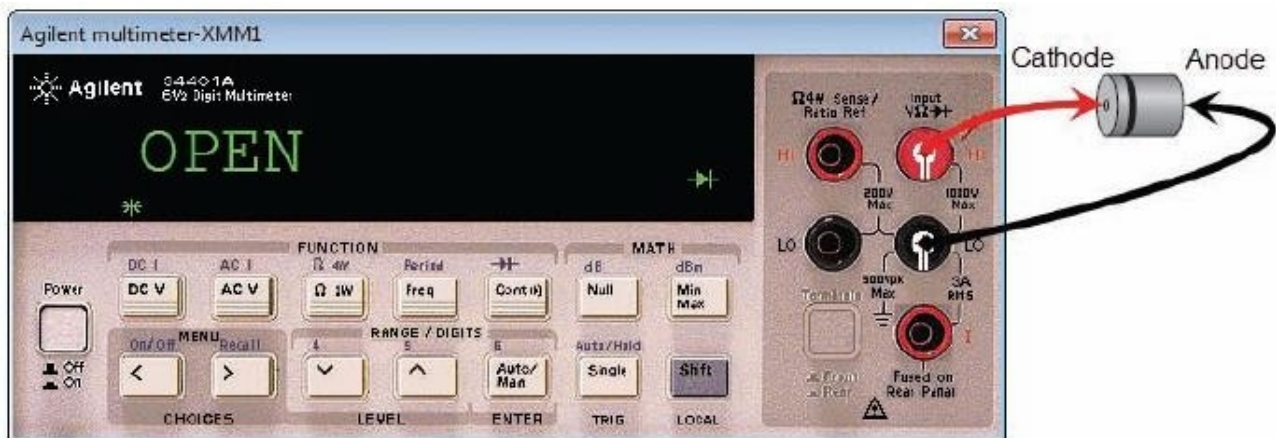

Figure-29
- When the diode is reverse biased by the test leads, the meter will give an over-range indication such as "**OL**" or "**1**" on the display as shown in Figure-29. A **shorted diode** would display a voltage of less than **0.5 V** in both directions.